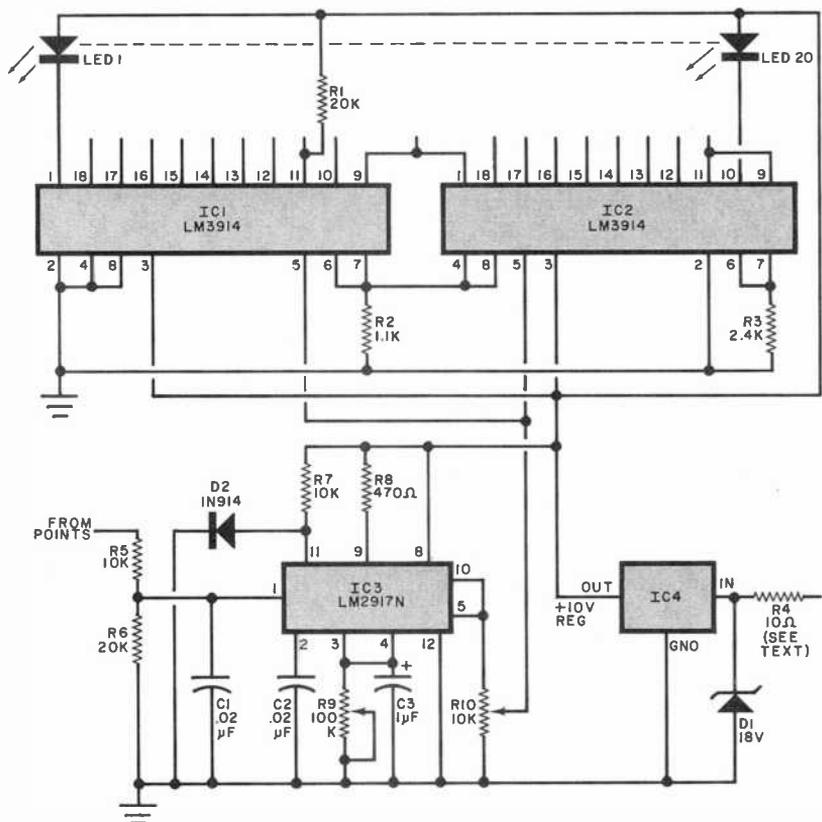

Fig. 13. Circuit for converting pulses from ignition points to voltages which activate LEDs from 1 to 20 to indicate speed.
**Tachometer.** The circuit shown in Fig. 13 consists of a basic 0-to-2.4-volt meter system and a frequency-to-voltage (f/v) converter. The voltmeter portion made up of IC1 and IC2 features 20 divisions, each represented by a LED. The IC3 f/v converter accepts varying-frequency pulses from the engine's ignition points and converts them into proportional dc voltages with constant updating.
In Fig. 13,  $R5$ ,  $R6$ , and  $C1$  condition the input signal from the points. A stable-temperature-characteristic capacitor must be used for  $C2$ , which is the timing capacitor for the charge pump. Potentiometer  $R9$  serves as the discharge path and doubles as the scale calibration control. Charge-pump filtering is provided by  $C3$ . The uncommitted emitter of the internal output transistor is connected to  $R10$ .
#### PARTS LIST (Fig. 13)
There are simple ways to give a large measure of transient protection to home-built projects. GE's MOV transient protectors is one simple way. A second method is shown in Fig. 13, where 10-ohm resistor R4 and 18-volt zener diode D1 protect the power input line. If the circuit is to take care of a blown regulator, where 18 volts may be on the line continuously, the division of dissipated power between the zener diode and resistor must be calculated. Once breakdown occurs, the circuit will be carrying well over 1 ampere of current. This means that the power (wattage) ratings of the resistor and diode must be calculated.